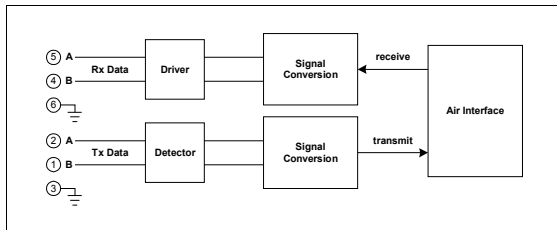

Figure 12 - G.703 Circuit Outline
G.703 Circuit Outline (Figure 12) shows the basic functional blocks that form the G.703 sub system.